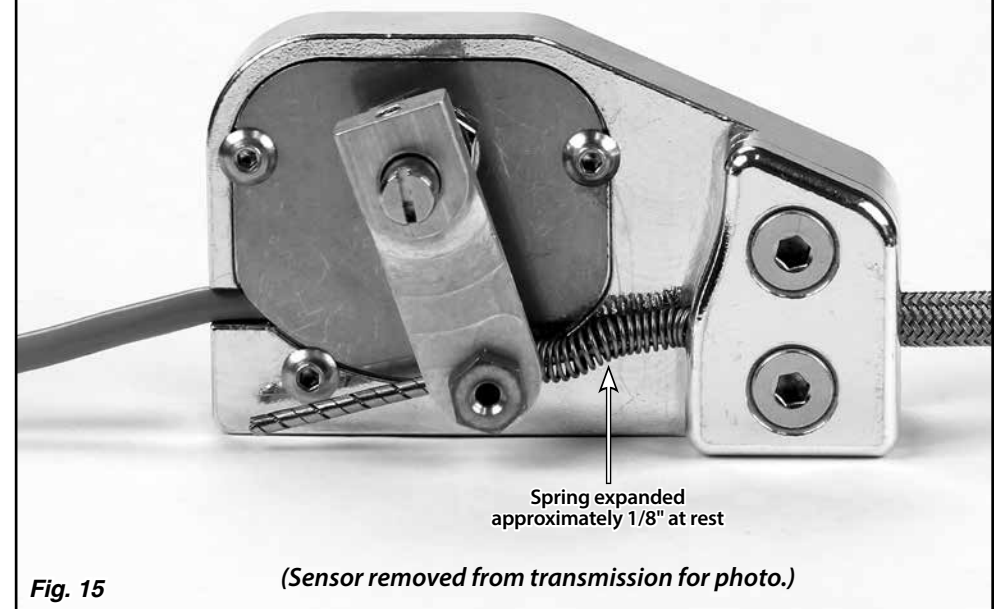

Fig. 15
- **All applications with the trans arm pointing DOWN:** Push the sensor arm as far as it will go until the spring is completely compressed. Then, let the spring expand approximately 1/8". **Fig. 15** While holding that position, tighten the set screw in the index cable stop on the sensor arm using a 1/16" Allen wrench.